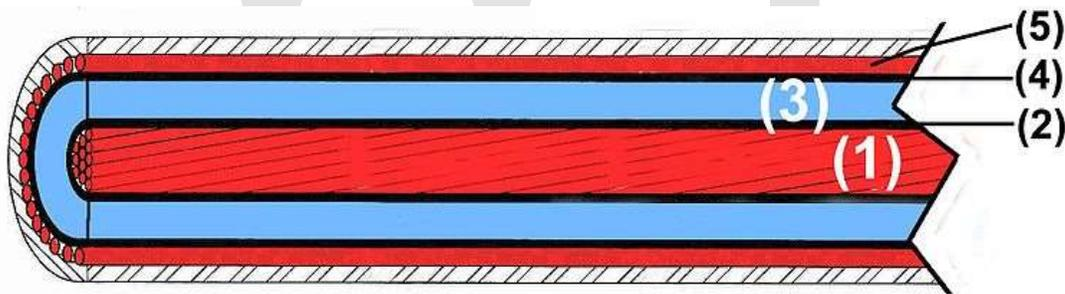

Figure 1, cross section of a high voltage cable, (1) conductor, (3) insulation.
A typical earthing electrode (left) at a home in Australia. Fig. 1. Note the green and yellow marked earth wire.
An electrical connection to earth can be used as a reference potential for radio frequency signals for certain kinds of antennas. The part directly in contact with the earth (the "earth electrode") can be as simple as a metal rod or stake driven into the earth (Fig. 1), or a connection to buried metal water piping (though this carries the risk of the water pipe
Modern HV cables have a simple design consisting of few parts. A conductor of copper or aluminum wires transports the current, see (1) in figure 1. Conductor sections up to 2000 mm² may transport currents up to 2000 amperes. The individual strands are often preshaped to provide a smoother overall circumference. The insulation (3) may consist of cross-linked polyethylene, also called XLPE. It is reasonably flexible and tolerates operating temperatures up to 120 °C. EPDM is also an insulation.
A high voltage cable for HVDC transmission has the same construction as the AC cable shown in figure 1. The physics and the test-requirements are different. In this case the smoothness of the semiconducting layers (2) and (4) is of utmost importance. Cleanliness of the insulation remains imperative.